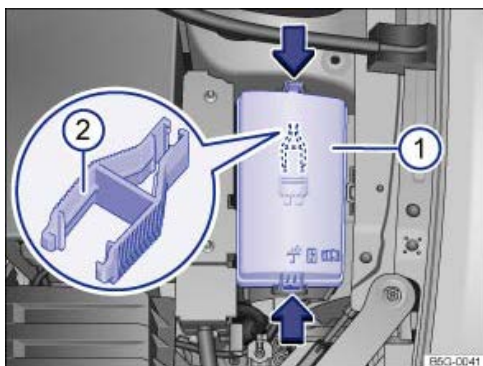

Fig. 240 In the engine compartment: cover of fuse box with plastic pliers .
- Press the release buttons in the direction of the arrow → Fig. 240 to release the fuse box cover.
In some vehicles, there is a pair of plastic pliers → Fig. 240 for removing fuses on the inside of the cover of the fuse box in the engine compartment.